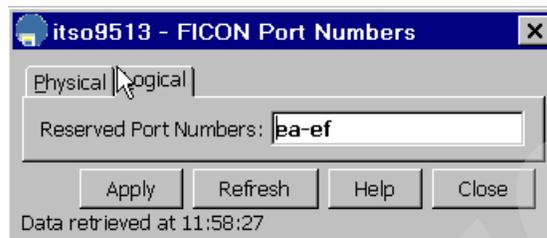

Figure 7 Reserving port numbers
1. Click **FICON** → **Port Numbers** to display the FICON port numbers as shown in Figure 7. Click the **Logical** tab to see the reserved port numbers for the slot.